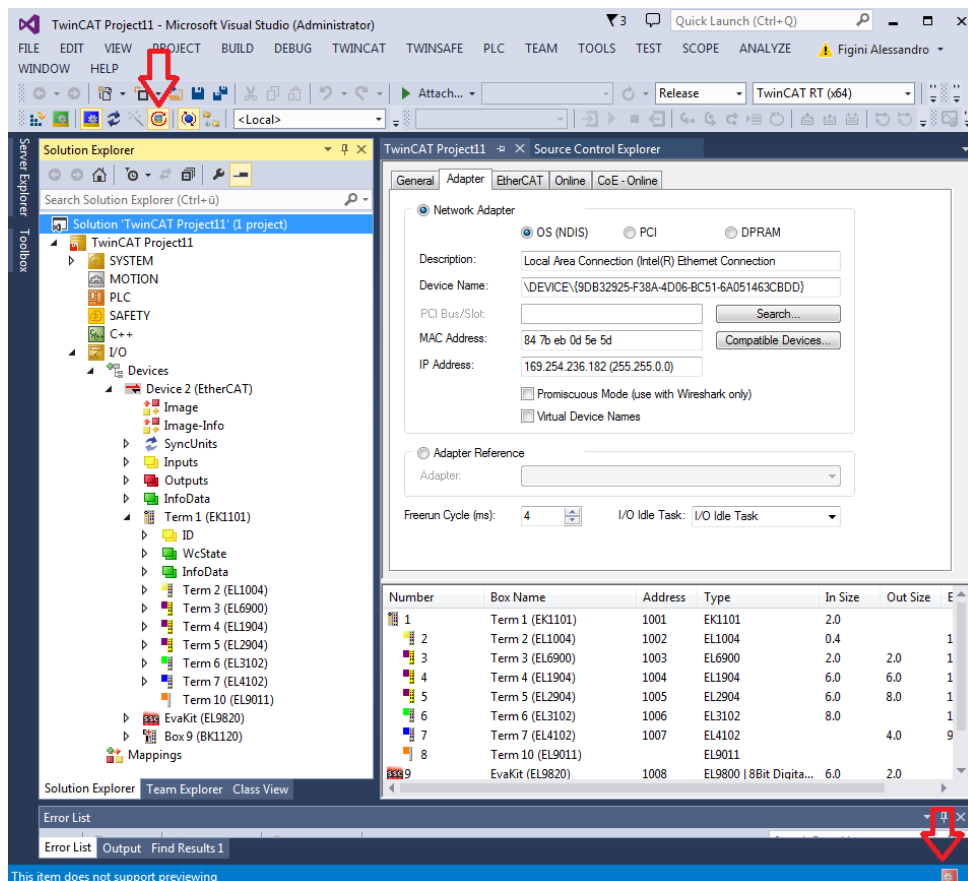

Figure 17: start/stop Free Run
- a. Free Run operation can be started and stopped by means of the toggle command (Figure 17). When Free Run is active, the TwinCAT blue Config Mode icon will blink in red.